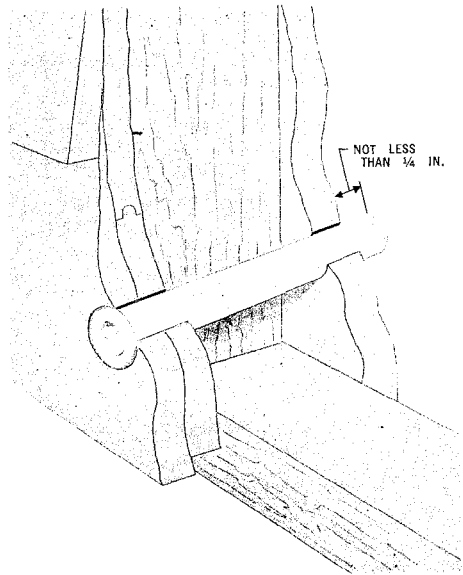

Fig. 18 — Placing Tube
20.01 Use plastic tubes at building entrance holes for drop wire where fused protection is required and the wire passes through a flammable surface. Place tube as shown in Fig. 18. Cut plastic tubes with a hack saw or diagonal pliers. Do not use split tubes at entrance holes.